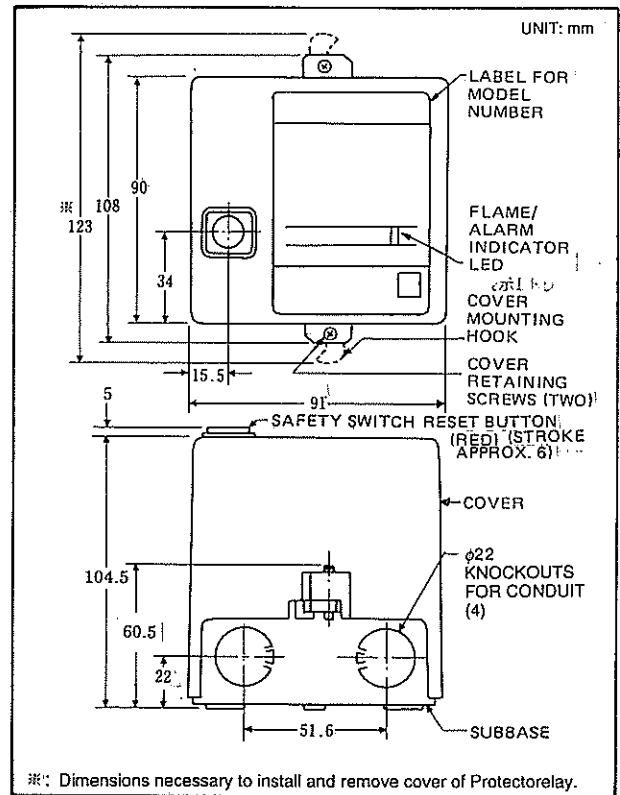

Fig. 1 External dimensions
EXTERNAL DIMENSIONS: See Fig. 1
The standard way of installing the Protectorelay is so that the cover retaining screws are vertically in line with each other, as shown at the top of Fig. 1. However, as long as the reset button of the safety switch is not facing downwards, it is permissible to mount the Protectorelay in any direction.
- (1) Slightly slacken the two cover retaining screws (top and bottom) shown in Fig. 1, then bring out the cover mounting hooks to the outside of the relay, as indicated by the broken line.
- (2) Grasp the subbase and cover with the left and right hands, respectively, and separate them left and right, being careful not to apply unreasonable force.
- (3) Perform installation in the reverse sequence to the above.
- (1) As necessary, open the conduit knockout holes shown in Fig. 1 and 2, and install a wiring conduit.
- (2) Fix the subbase at the specified position with mounting screws.